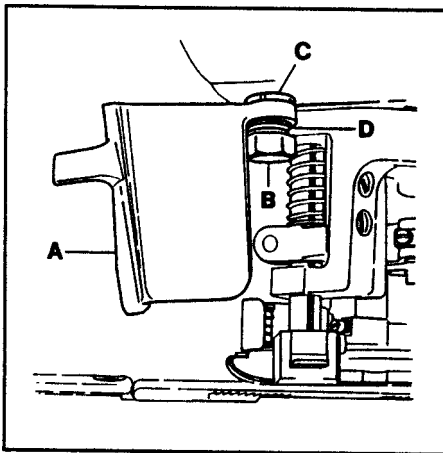

FIG. 26
To adjust the position and tension of frame chip guard (A, Fig. 26), slightly loosen screw (B) and turn washer (C) with 21388Y spanner wrench until spring (D) snaps the guard into the closed position. Tighten screw (B). A light resistance should be felt when opening the guard.